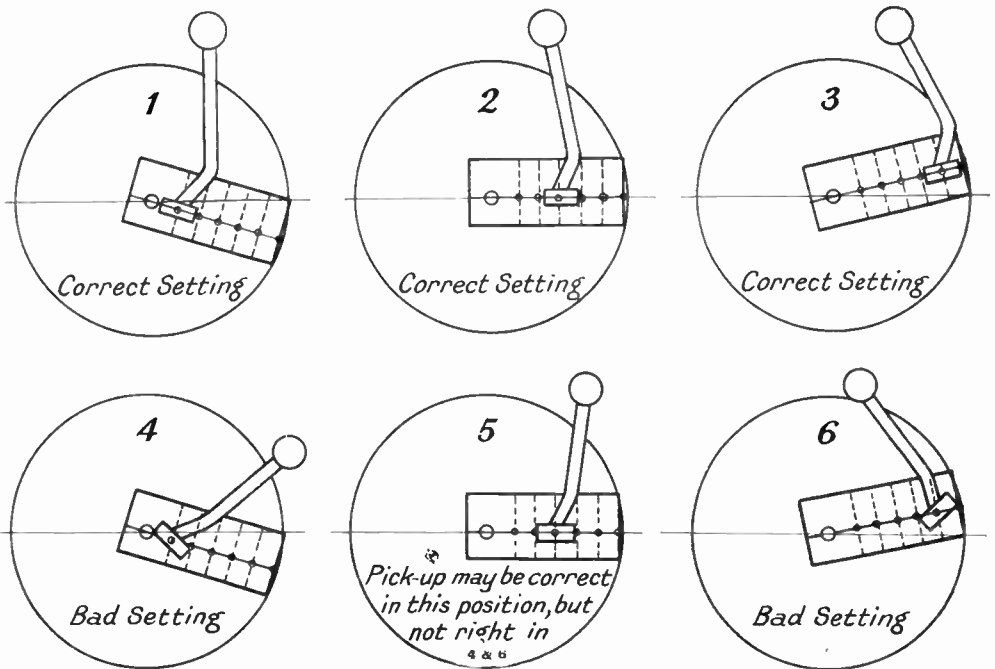

Fig. 11.—CORRECT AND BAD SETTINGS.
4. Place needle point at "o" on dotted line 3, adjust position of carrier base on the baseboard, so that the pick-up is at right angles to the lines as setting 2, Fig. 11.